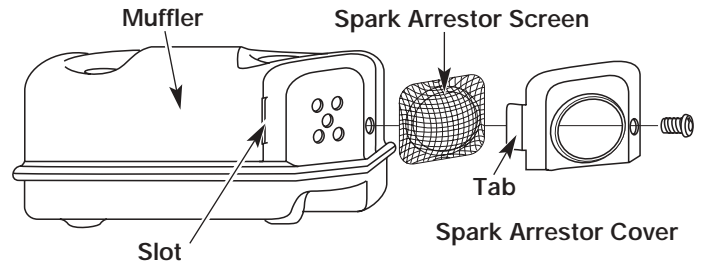

Figure 57
2. With a flat blade screwdriver or Torx T-20 bit, remove the screw attaching the spark arrestor cover to the muffler. See Figure 57.